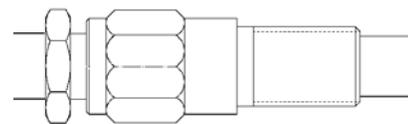

Figure 10
3. The finished connector should appear as shown in Figure 10.